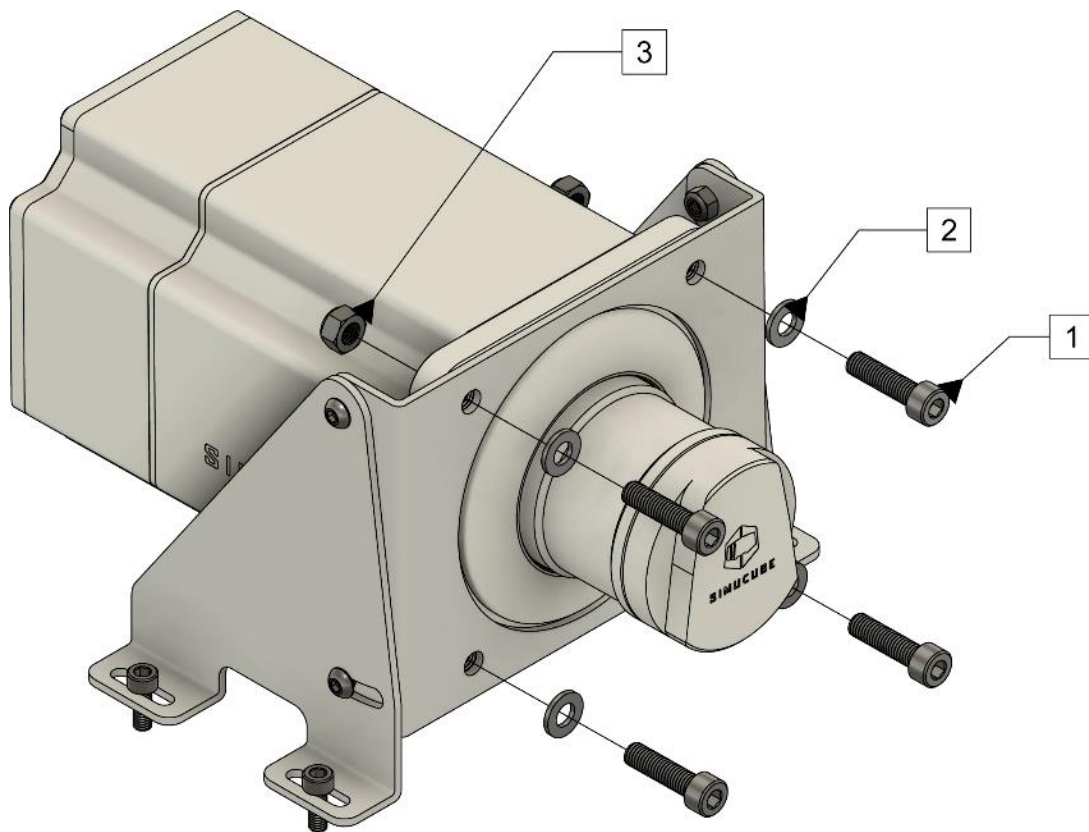

Figure 3 Mounting Simucube 2 using a mounting bracket.
Simucube 2 can be mounted with separate bracket that can convert the front mount to a horizontal platform (table) mounting as in Figure 3. Mounting brackets be found from Simucube resellers listed on <https://www.simucu.be> website.
Mount Simucube 2 as shown in Figure 3. Sport and Pro models are mounted with 30mm M8 bolts with 1.25mm thread pitch (1) and M8 flat washers (2). Simucube 2 Ultimate is mounted through the motor flange with 40mm M8 bolts (1), M8 flat washers (2) and M8 locking nuts (3).